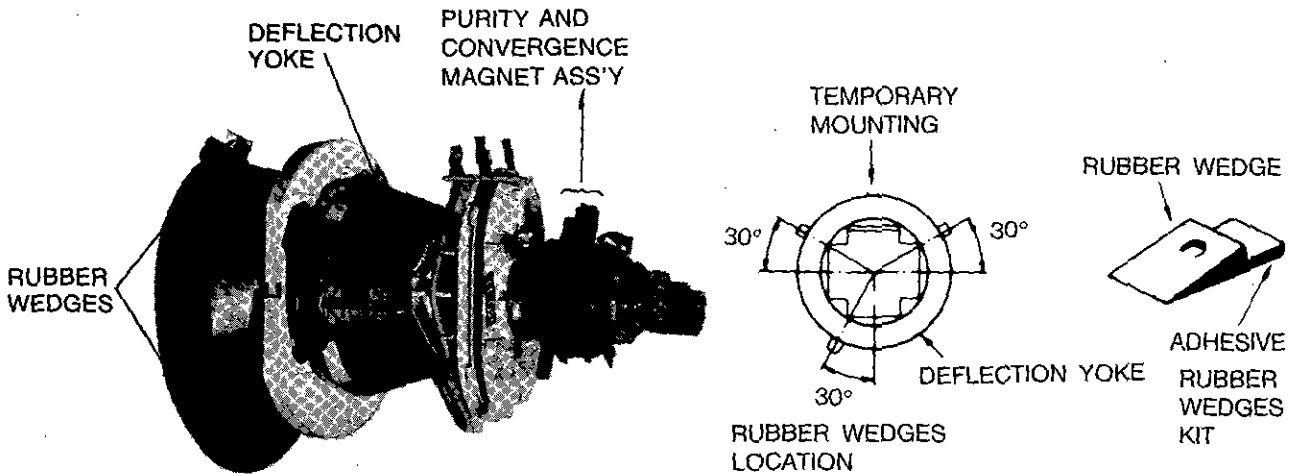

Figure 14
CAUTION : Convergence and Purity have been factory aligned. Do not attempt to tamper with these alignments. However, the effects of adjacent receiver components, or replacement of picture tube or deflection yoke may require the need to readjust purity and coverage. Coverage magnet assembly and rubber wedges need mechanical positioning following the figure 14. Before attempting any convergence adjustments this receiver should be operated for at least fifteen minutes. If adjustment is required, the adjustments should be made in the following sequence.
2. Adjust DY to obtain a better convergence in the circumference by orbital movement of the front of the yoke, then secure the DY in appropriate position by placing the wedges as illustrates in figure 14 Tighten screw holding the DY. Stick 3 adhesive tapes on wedges as shown in figure 14.